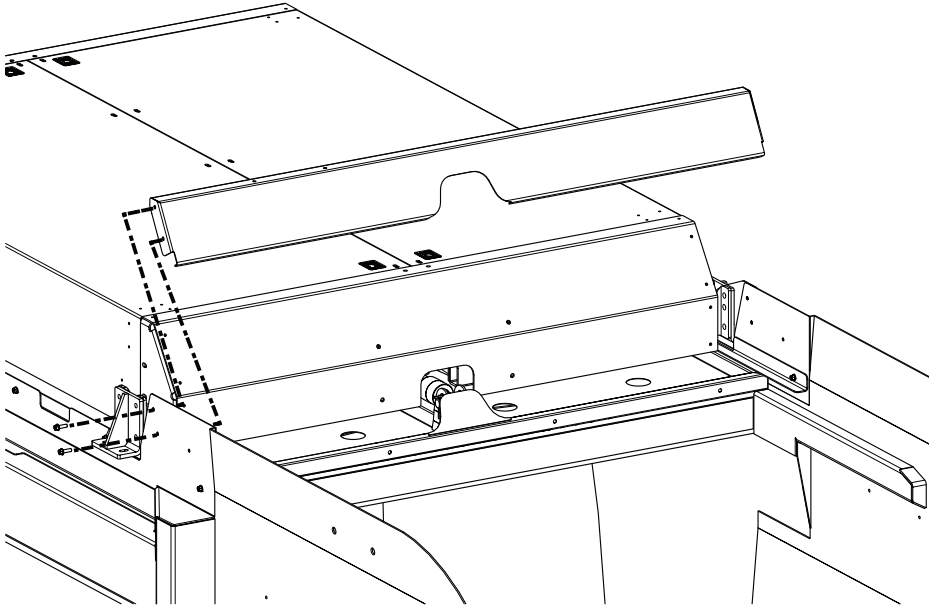

Figure 1
3. Attach the slings and overhead crane (as necessary) and remove the existing deflector and hardware (from both sides) (Figure 1). Retain the hardware - some will be reused during installation of the new refuse deflector weldment.